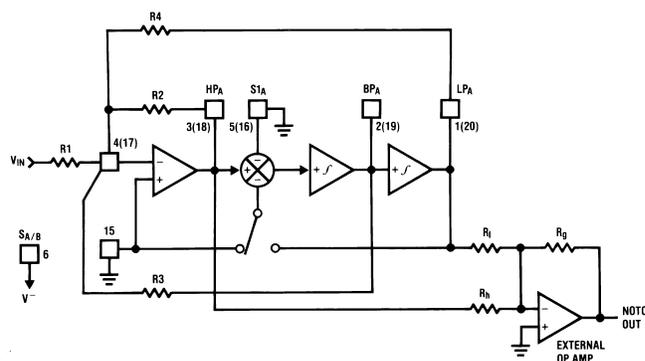

Figure 45. MODE 3a
**8.4.1.6 MODE 3a: HP, BP, LP and Notch With External Op Amp (See Figure 45)**